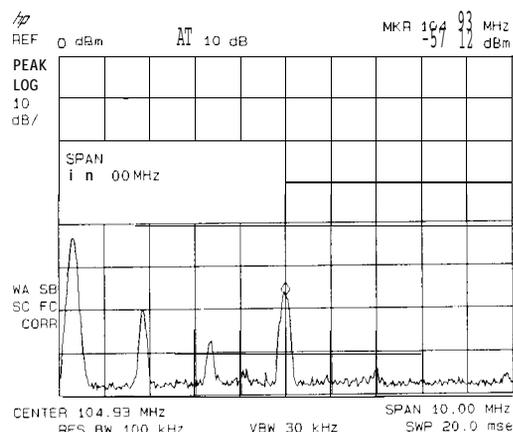

Figure 3-16. Low-Level Signal
5. Reduce the span to 10 MHz. Press **(SPAN)**, and then use the step-down key **(↓)**. See Figure 3-16.